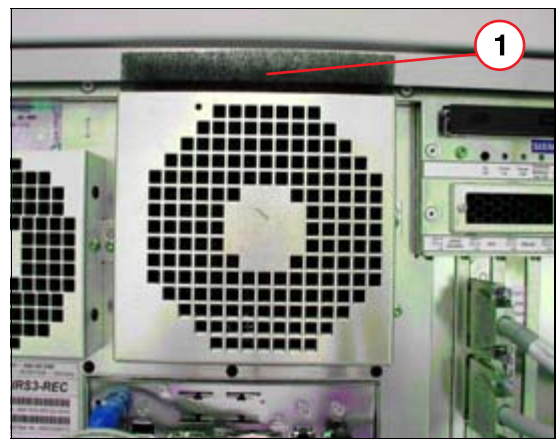

Fig. 30: Replacing the filter pad
- Push the filter pads upward using a screwdriver (1/Fig. 30 / p. 47) and remove them from the filter frame.